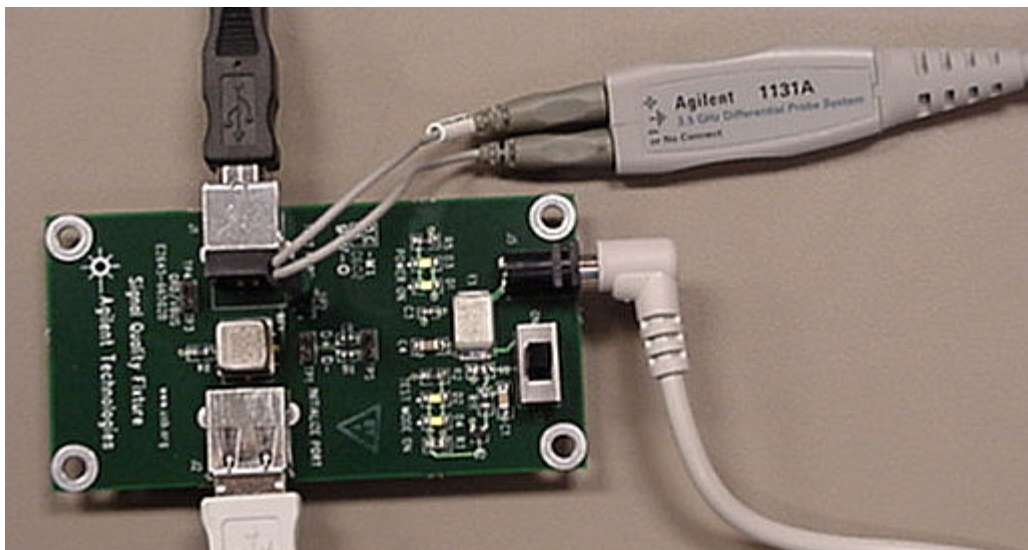

Figure 2. Differential Probe Connection on Host Test Fixture
- a. Ensure the + polarity on the probe lines up with D+, which is the pin nearest the USB connector. (Figure 2).